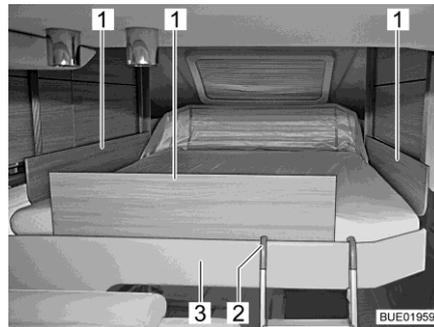

Fig. 139 Pull-down bed with safety plates
- Insert the safety plates (Fig. 139,1) between the mattress and the bed surround (Fig. 139,3).
- Hook both bows of the access ladder (Fig. 139,2) into the bed surround (Fig. 139,3).
- Release the access ladder (Fig. 139,2) from the bed surround (Fig. 139,3).
If it is no longer possible to move the pull-down bed with the arrow keys (Fig. 139,2 and 8), first of all check the fuse Reserve 3 on the transformer/rectifier (see section 9.12.1). If the fuse is okay and it is still not possible to move the pull-down bed, the pull-down bed can be operated manually.